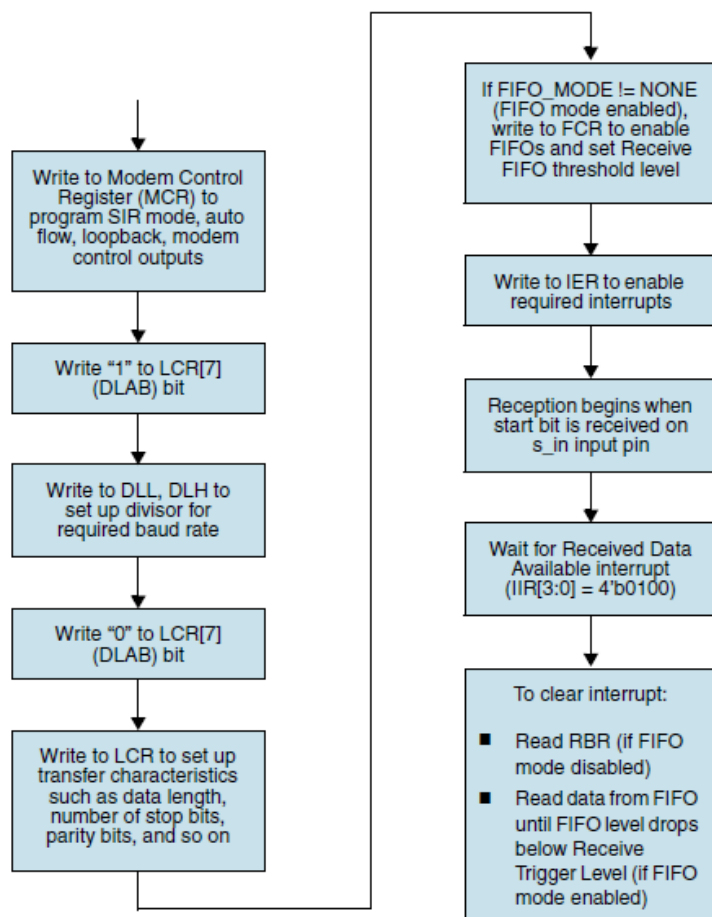
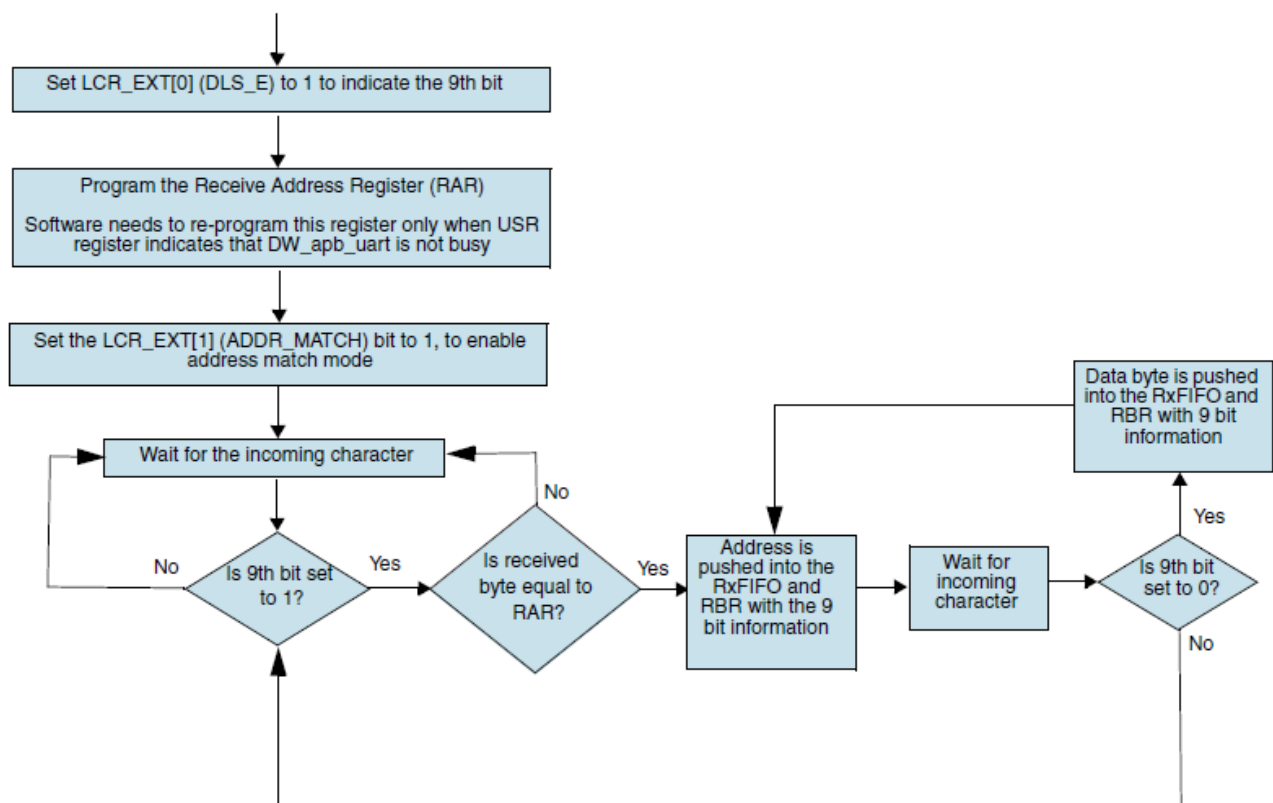

Figure 12-2-24 Flowchart for UART Receive Programming Example
Figure 12-2-27 Hardware Address Match Receive Programming Flow
The flow diagram in Figure 12-2-24 shows the programming sequence for setting up the UART for reception.
3. Hardware Address Match Receive mode For setting up UART in hardware address match receive mode, follow the programming sequence mentioned in Figure 12-2-24 and additional steps as mentioned in Figure 12-2-27.